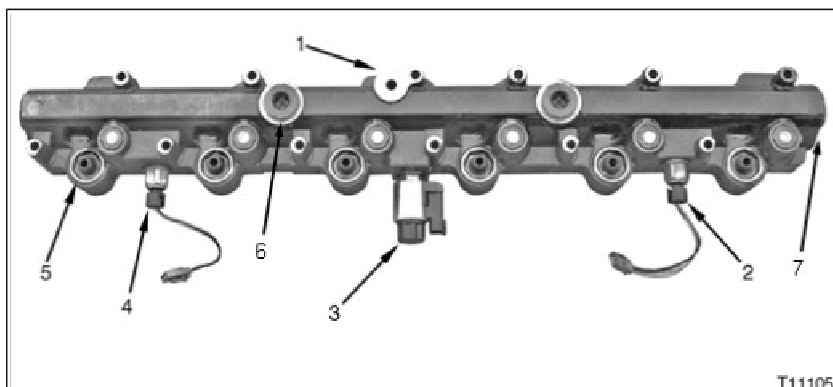

Figure 1
- If test #3 still fails, use leak detection pump to determine location of the leak (Figure 1).